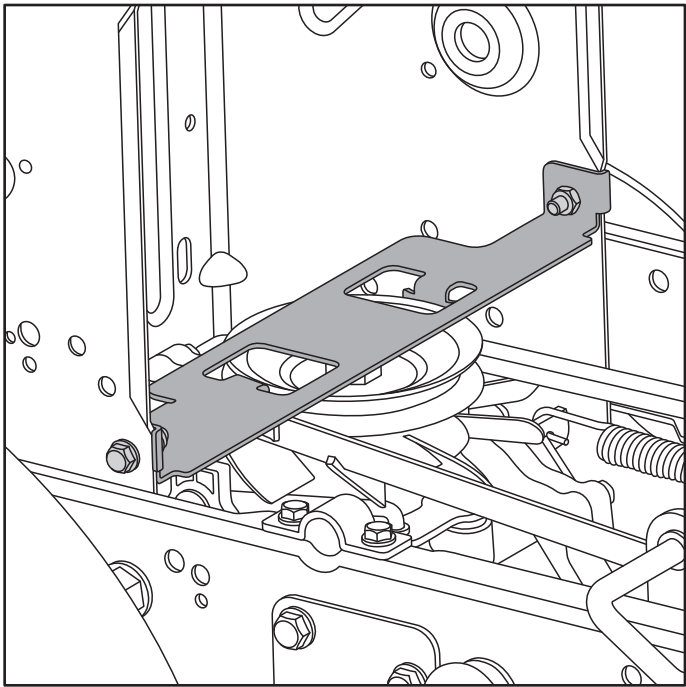

Fig. 31A
2. Remove the plate by removing two bolts that fastens them to the mounting bracket. (Fig. 31A)